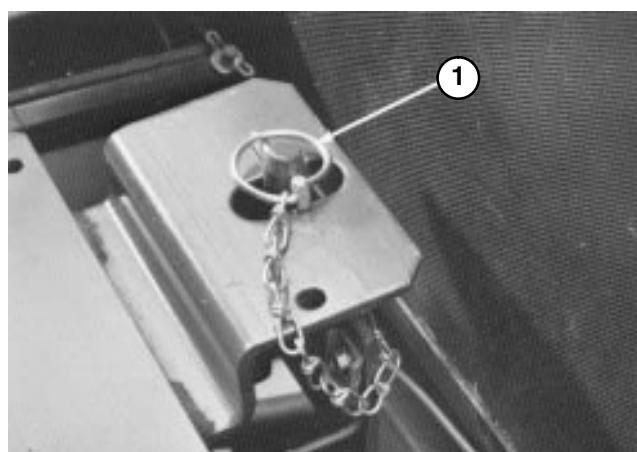

Figure 16
- Disengage seat support rod and pivot downward. Pivot seat down and push lynch pin through seat latch stud. Flip wire end of pin over latch stud (Fig. 16).